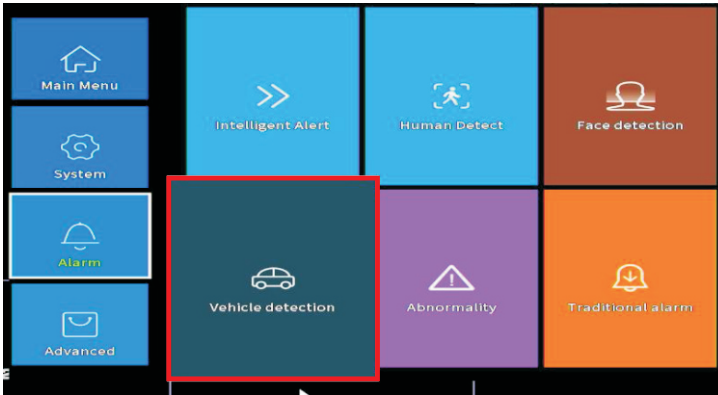

Figure 10. Click Vehicle Detection.
18. Select and click "Vehicle Detection" menu as seen on Figure 10